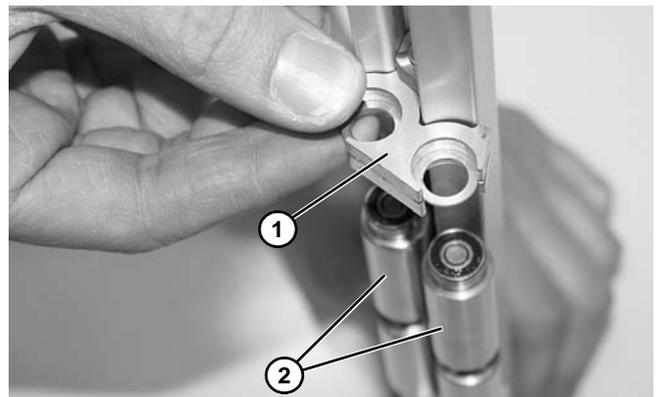

Figure 113
8. Remove bearing carrier (if installed) (Figure 113, item 1) and spindles (Figure 113, item 2).